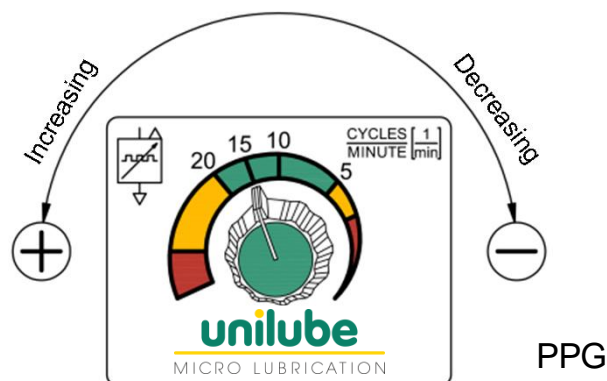

Fig. 11: Pneumatic Pulse Generator – setting number of cycles (5 ÷ 20 pulses/min)
8.2.4 Increase the number of cycles of the PPG to approx. 60 (-120) pulses/minute (Fig. 11 and Chapter 6.3). For versions with an electric Pump Control Valve (option) in the machine control system, select the setting for venting (depends on what the customer has programmed).